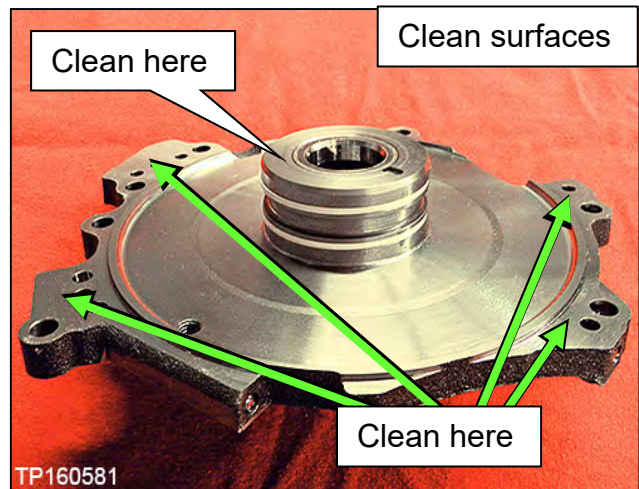

Figure 113
- a. Clean the dummy cover surfaces that contact the CVT case and thrust bearing (Figure 113).